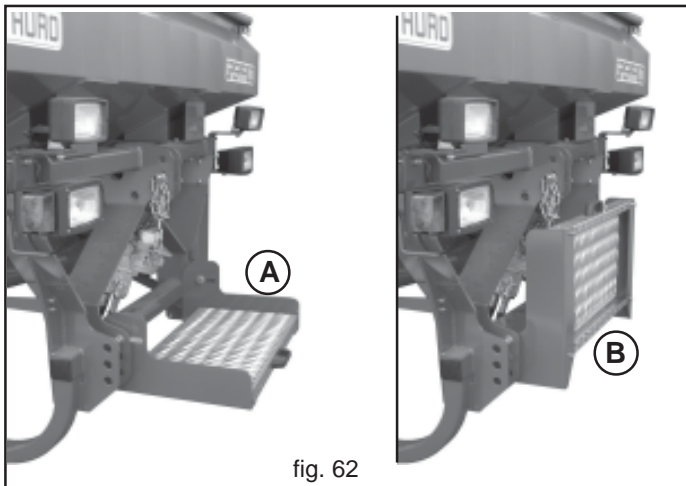

fig. 62
Hoppers and tanks can be filled by hand or using a lifter with a capacity of at least 200 kg, which must be regularly approved by the relative authorities. Please remember that lifting weights of more than 25 kg requires more than one operator or the use of hoisting apparatus. In the event of manual loading, use the platform (A, Fig. 62) to reach the hopper of the equipment. Always fold the platform as shown in Figure 62 (B) during the work and during road transport.